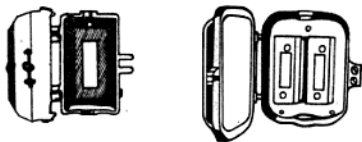

Fig. 2.21 Iron-clad cut-out
**Iron-Clad Cut-out** The general practice is not to use semi-enclosed fuse holders unless they are provided with an iron cover. These fuse holders are known as iron-clad cut-outs (Fig. 2.21).